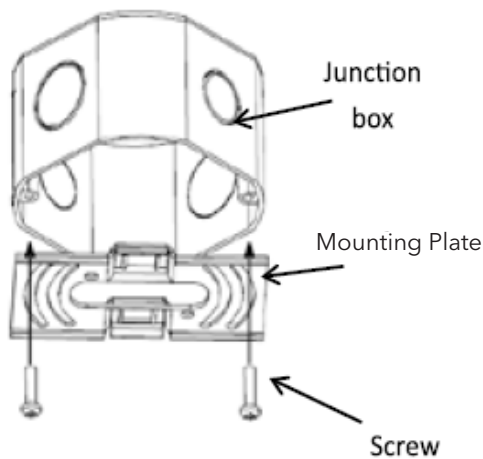

Fig. 1
2. Attach the mounting plate (provided) onto the junction box with screws (provided) [Fig. 1].